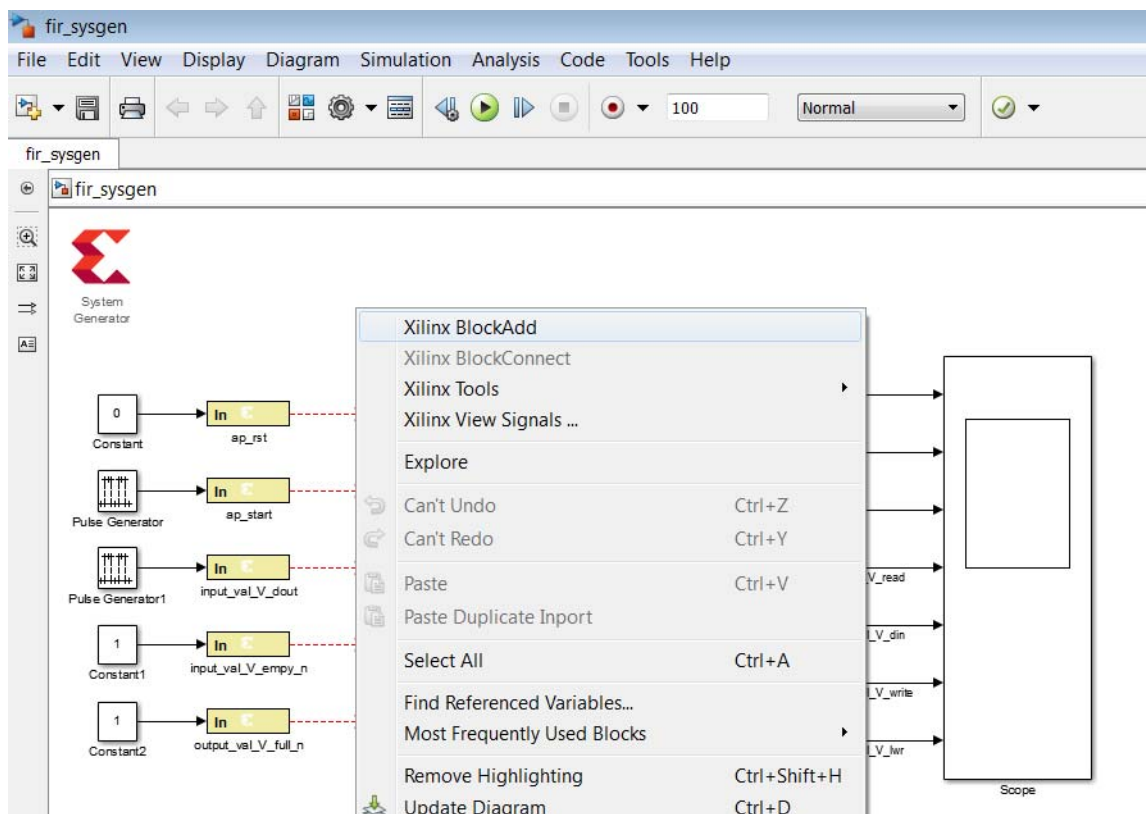

Figure 11-5: Adding a New Block
4. Right-click in the canvas and select **Xilinx BlockAdd**, as shown in Figure 11-5.